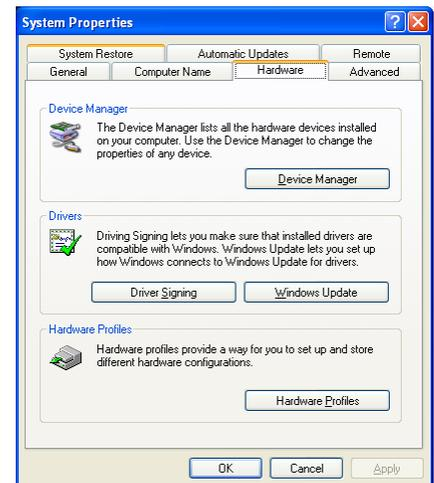

Figure 8. System Properties dialog box, Hardware Tab
- 2. Select the "Hardware" tab** in the "System Properties" dialog box (Figure 8).
3. **Select the "Hardware" tab** in the "System Properties" dialog box (Figure 8).